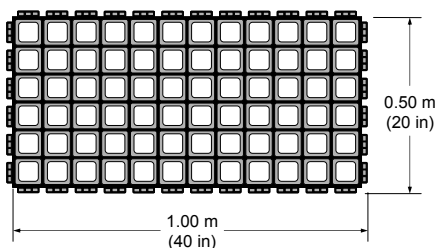
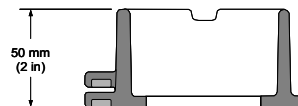

Figure 2 The Geoblock5150 Unit
Figure 3 The Geoblock Cell and Interlocking Offset Tab
- Figure 2 The Geoblock5150 Unit 3
- Figure 3 The Geoblock Cell and Interlocking Offset Tab 3
Geoblock units shall have physical dimensions as specified in Table 1 and shown in Figure 2. Geoblock units shall have an interlocking offset tab system on all edges as detailed in both Figure 2 and Figure 3. End-to-end or side-to-side warpage of the Geoblock unit shall not be greater than 6 mm (0.25 in).